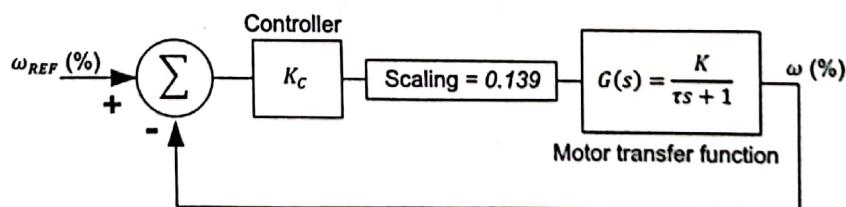

Figure 28. Block diagram of a servo motor in closed loop speed-control mode.
Figure 28 shows a simplified block diagram of the servo closed loop speed-control system with a first-order motor model. The controller is in proportional only mode (constant gain term).
For the purposes of step changes to reference speed analysis, the block diagram in Figure 28 can be reduced to Equation (28) (see Appendix B for the complete equation development):
The step response for the block diagram shown in Figure 28 is equal to (see Appendix B for the complete equation development):